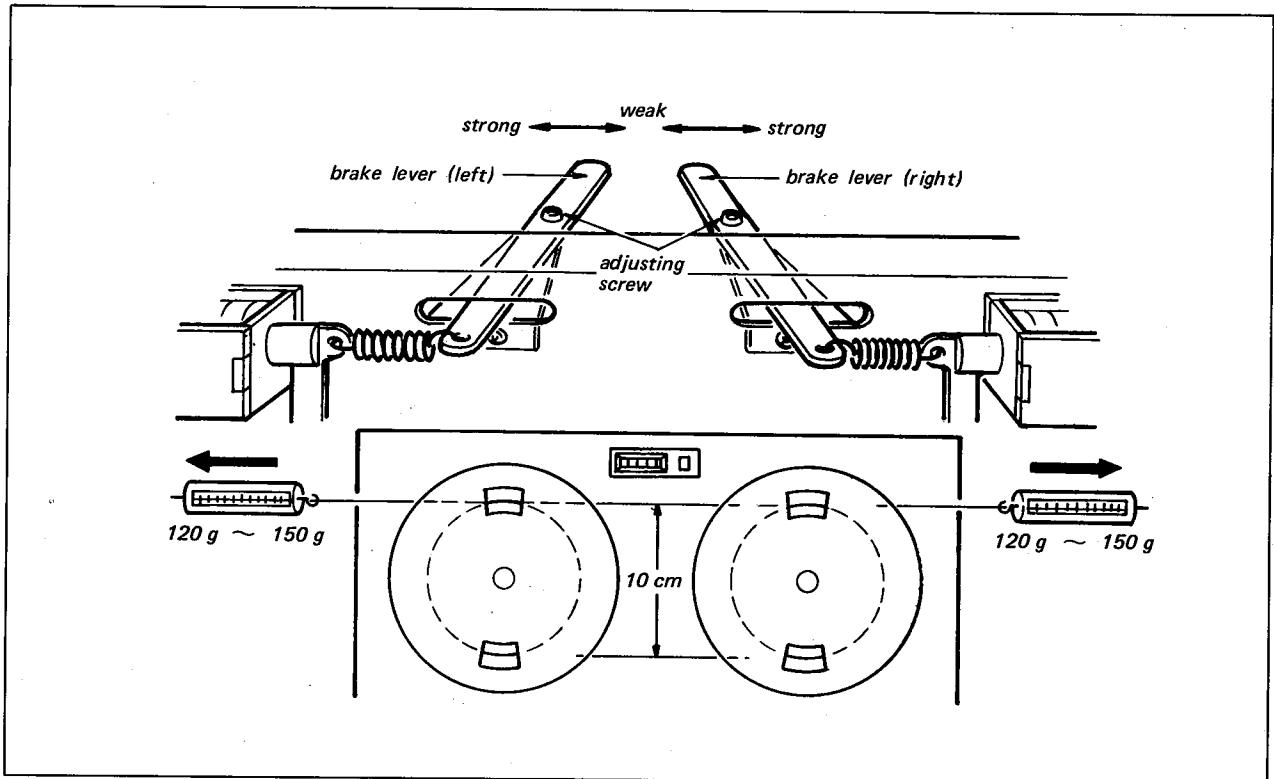

Fig. 3-1. Brake torque adjustment
#### 3-1. Brake Torque Adjustment (See Fig. 3-1)
- 1) Place an empty reel (with 10cm hub diameter with about 80 cm length of string to the reel anchor) and a spring scale on the left reel table as shown in Fig. 3-1.